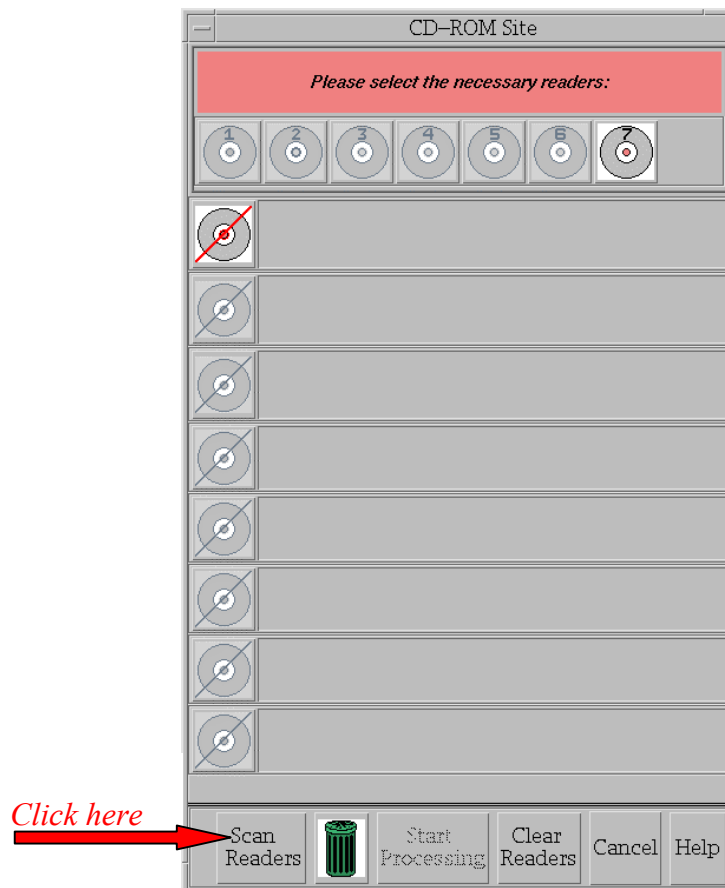

Fig. 5 – CD-ROM site window
- d. From the **CD-ROM Site Window**, select CD-ROM drive 7, click on *Scan Readers* (Fig. 5).
- iv. From the **CD-ROM Site Window**, select CD-ROM drive 7, click on *Scan Readers* (Fig. 5).
- b. From the **CD-ROM Site Window**, select CD-ROM drive 7, click on *Scan Readers*, then *Start Processing* (Fig. 5).
- ii. From the **CD-ROM Site Window**, select CD-ROM drive 7, click on *Scan Readers*, then *Start Processing* (Fig. 5).